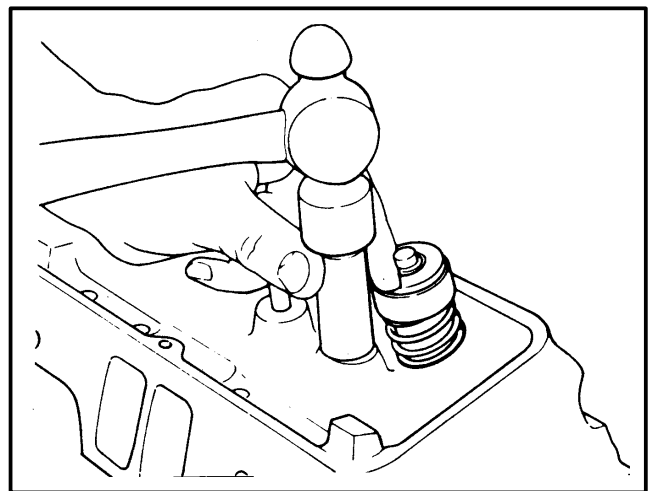

FIGURE 8. INSTALLATION OF A STUD FOR A ROCKER ARM
2. Use a reamer of the correct size for the new oversize stud. Apply SAE 90 lubricant to the new stud during installation. Install the new stud as shown in FIGURE 8.